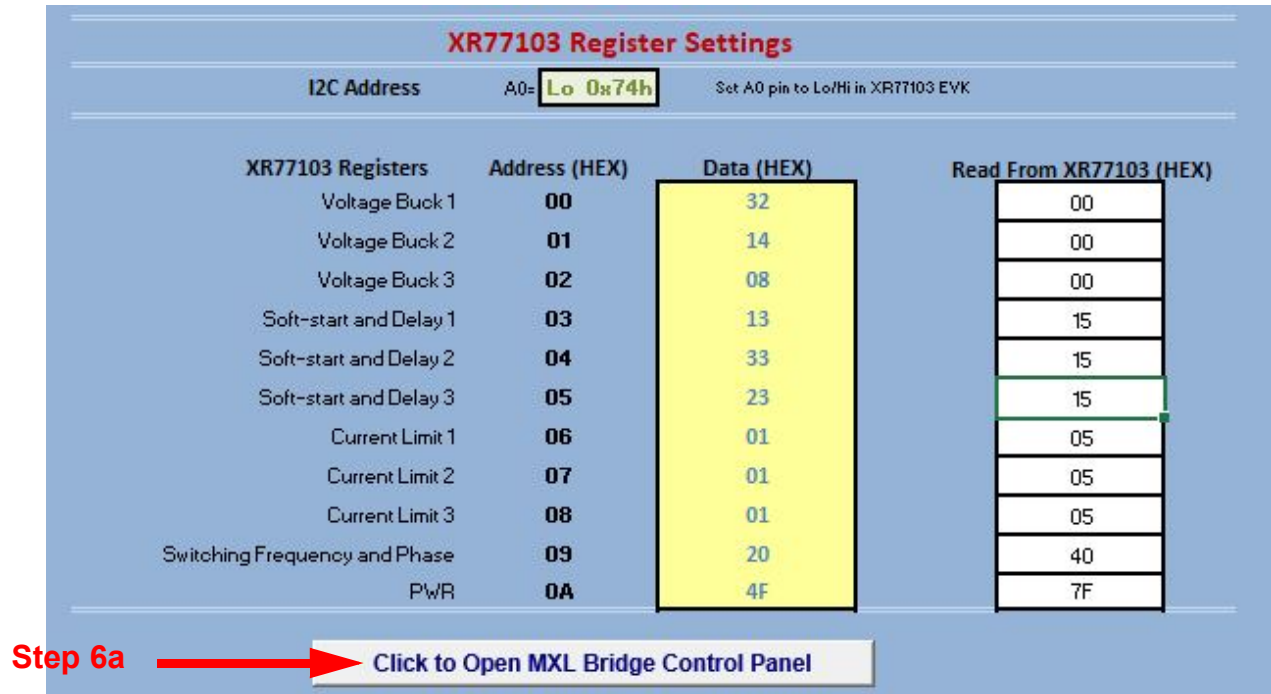

Figure 7: Bridge Control Button
- a. Click on the MxL Bridge Control Panel button to SW bridge, see Figure 7.